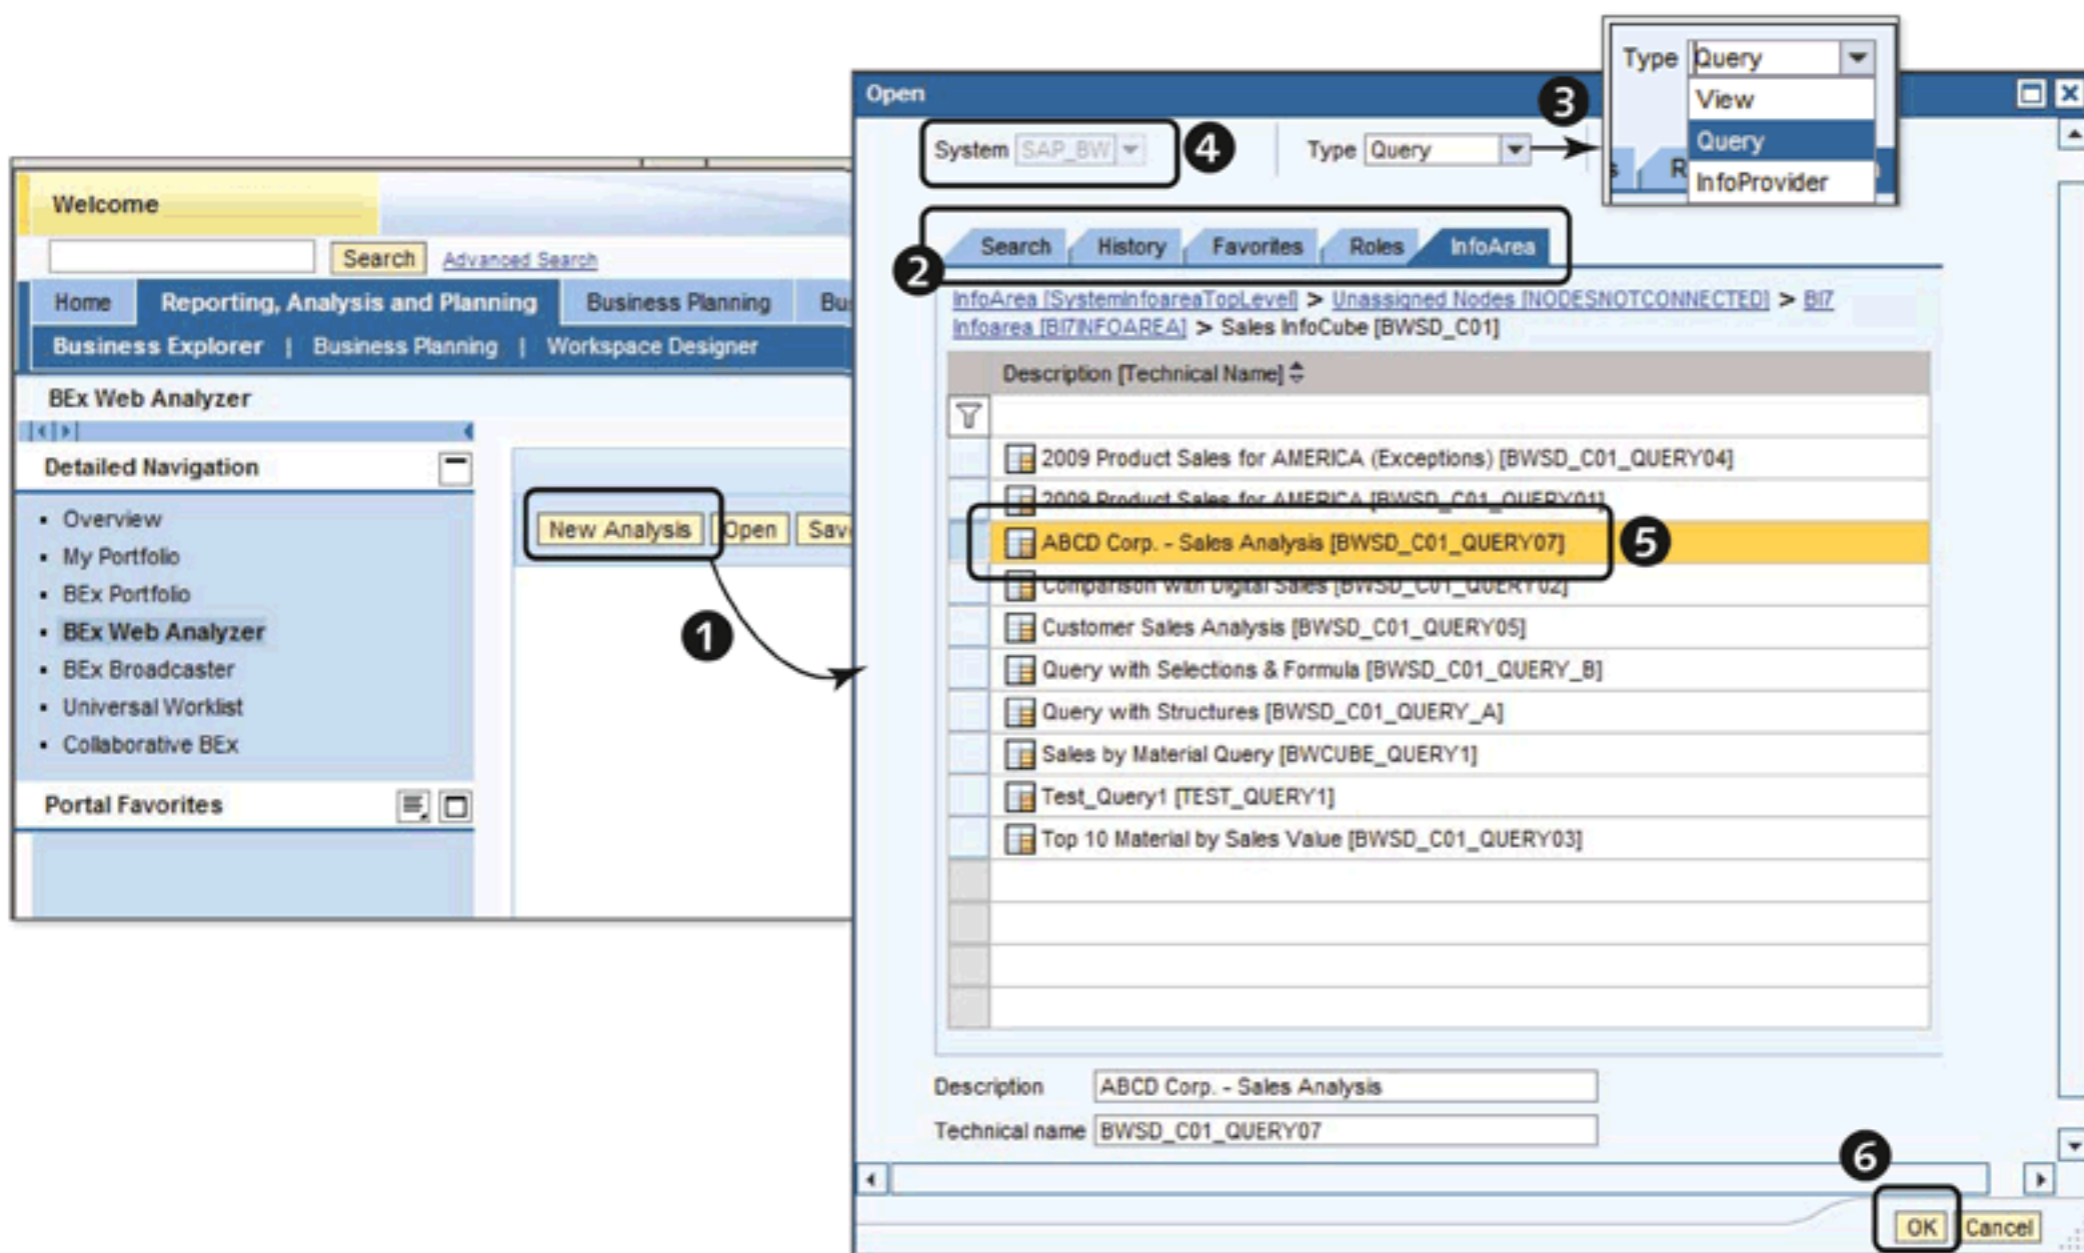

Figure 10.41 Create New Analysis
The default layout of BEx Web Analyzer is shown in Figure 10.41. Using the buttons available on the top toolbar, you can create a new analysis or open an existing one (Figure 10.41). To open a new analysis, click on the NEW ANALYSIS button (1), and the OPEN window appears. Here you can select the data provider for your analysis from the available tab pages (2). Ad hoc analysis can be performed on different types of data providers; you can open an existing query or InfoProvider for one of the views based on your specific need. Select the type of object from the dropdown (3).
Using BEx Web Analyzer, you can also perform analysis on data from external systems, which can be connected using XMLA or ODBO interfaces (4 of Figure 10.41). For this, the external system must first be defined in the portal. Normally, portal administrators perform this task for you.